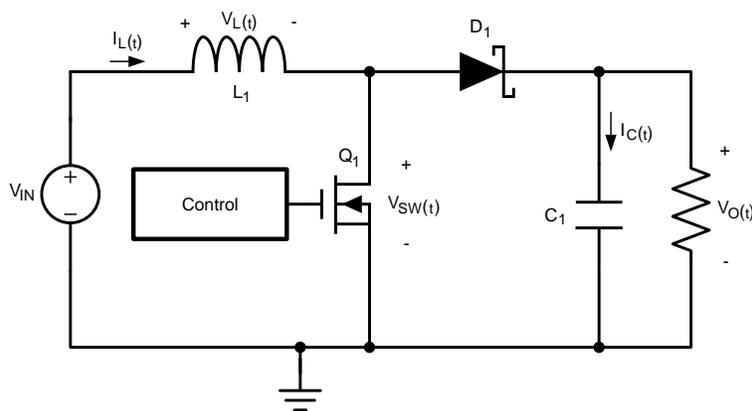

Figure 13. Simplified Schematic
The LM2735-Q1 is a constant-frequency PWM boost regulator IC that delivers a minimum of 2.1 A peak switch current. The regulator has a preset switching frequency of either 520 kHz or 1.6 MHz. This high frequency allows the device to operate with small surface mount capacitors and inductors, resulting in a DC/DC converter that requires a minimum amount of board space. The LM2735-Q1 is internally compensated, so it is simple to use, and requires few external components. The device uses current-mode control to regulate the output voltage. The following operating description of the LM2735-Q1 refers to the simplified internal block diagram (Functional Block Diagram), the simplified schematic (Figure 13), and its associated waveforms (Figure 14). The LM2735-Q1 supplies a regulated output voltage by switching the internal NMOS control switch at constant frequency and variable duty cycle. A switching cycle begins at the falling edge of the reset pulse generated by the internal oscillator. When this pulse goes low, the output control logic turns on the internal NMOS control switch. During this on-time, the SW pin voltage (V_{SW}) decreases to approximately GND, and the inductor current (I_L) increases with a linear slope. I_L is measured by the current sense amplifier, which generates an output proportional to the switch current. The sensed signal is summed with the corrective ramp of the regulator and compared to the error amplifier's output, which is proportional to the difference between the feedback voltage and V_{REF} . When the PWM comparator output goes high, the output switch turns off until the next switching cycle begins. During the switch off-time, inductor current discharges through diode D1, which forces the SW pin to swing to the output voltage plus the forward voltage (V_D) of the diode. The regulator loop adjusts the duty cycle (D) to maintain a constant output voltage .